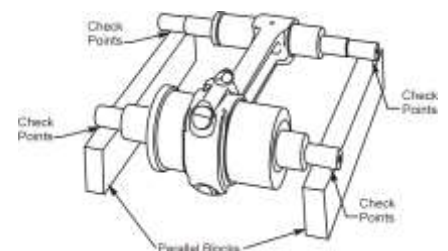

Figure 39
- L. Put the parallel blocks (Figure 39) of the Connecting Rod Parallelism and Squareness Gage on the surface plate.
- N. For the squareness check, use a feeler gage to measure the clearance at the four check points where the arbors rest on the parallel blocks (Figure 39). Record the measurement in the Connecting Rod Inspection Checklist for TEO-540-C1A Engines earlier in this chapter